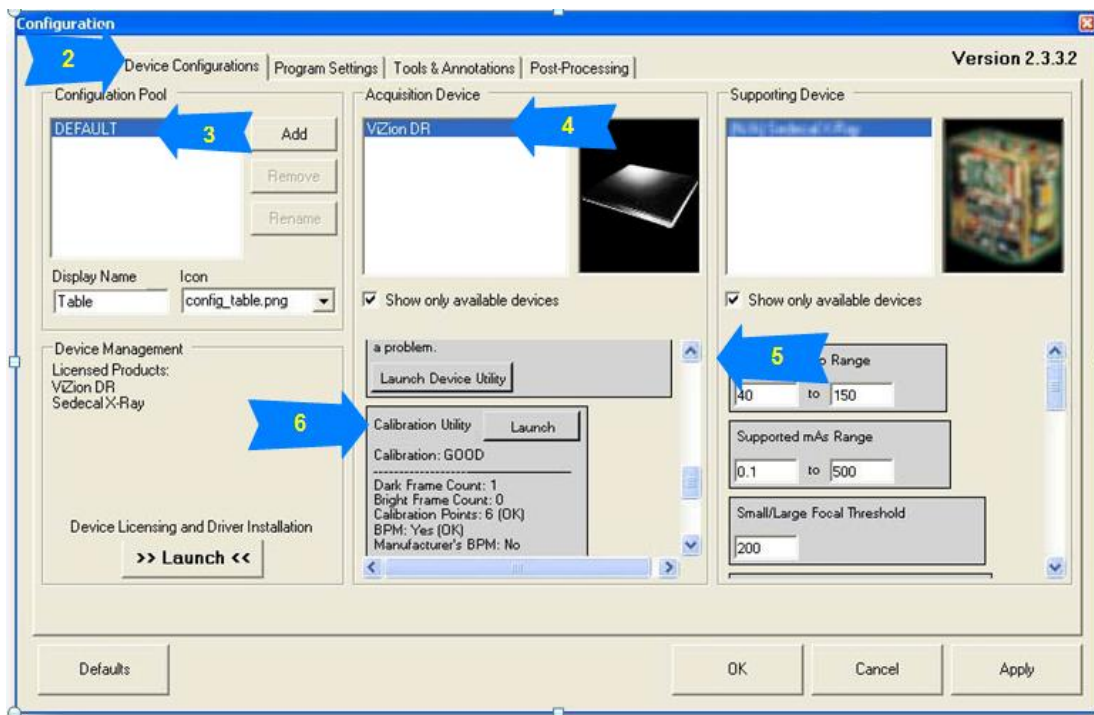

Figure 5
2. Select the Device Configurations tab to begin the calibration. – Figure 5
3. Highlight Default under Configuration Pool to activate the Acquisition Device. –Figure 5
4. Under the Acquisition Device, select the device you wish to configure from the list. – Figure 5
5. Scroll down to find the Calibration Utility. – Figure 5
6. Left click Launch to activate the Calibration Utility Instruction. – Figure 5